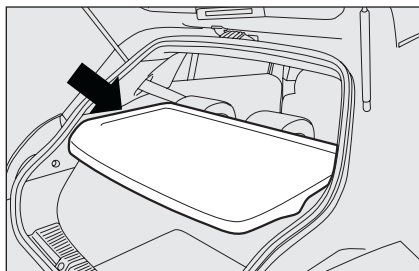
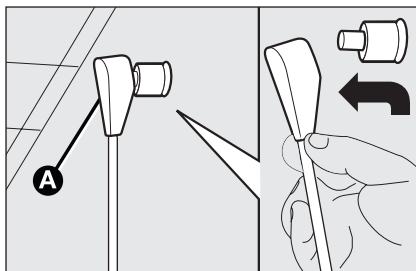

fig. 90
fig. 91
- remove the rear parcel shelf **fig. 90** and release the upper ends **A-fig. 91** of the two tie rods by removing eyelets from the pins and pushing them in arrow direction;